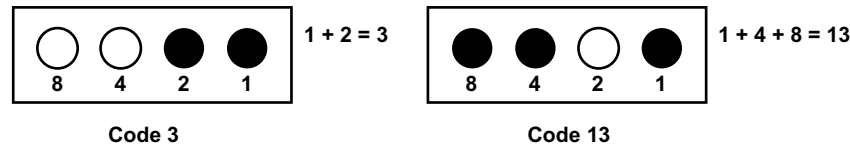

Figure 8-21 *Honda engine Code Type 04*
- Type 04, see Figure 8-21 and Table 8-5 on page 75